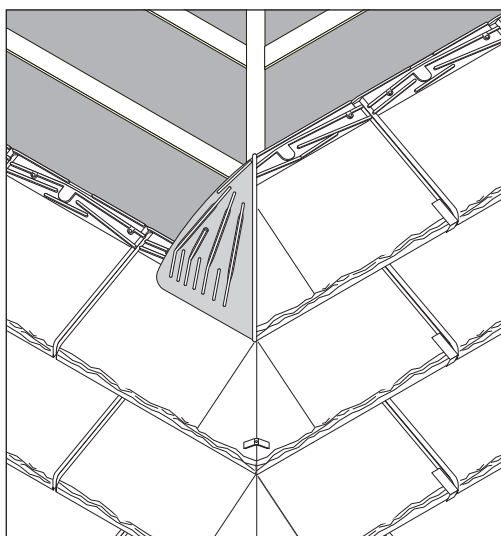

Fig 2 Ensure courses end in double slate
- 4 Where two hips meet at ridge, as at a hipped end, ensure that top course will finish with a double slate for cutting both sides (Fig 2). (See 9 (b) below).